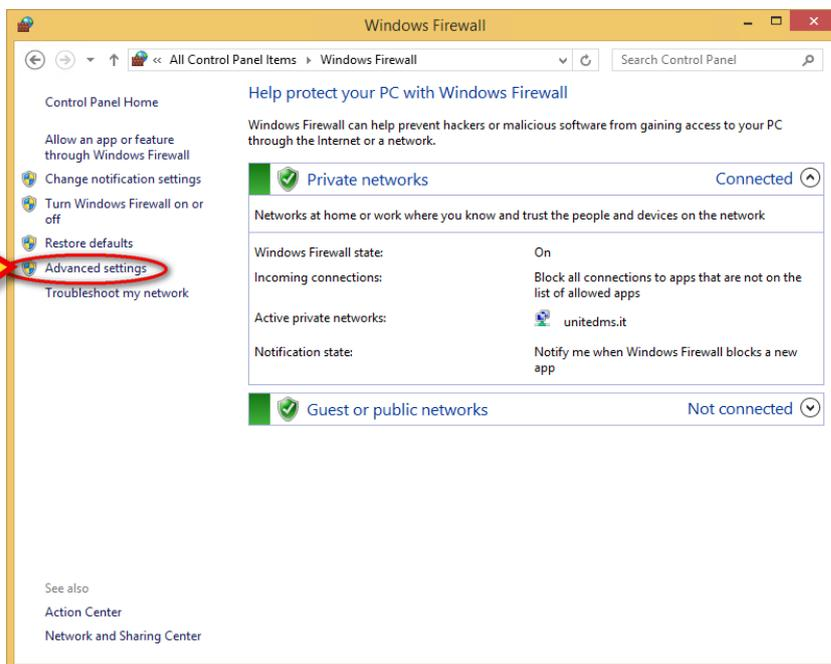

Fig 4
- 2 Select **Advanced settings** (Fig 4 A).